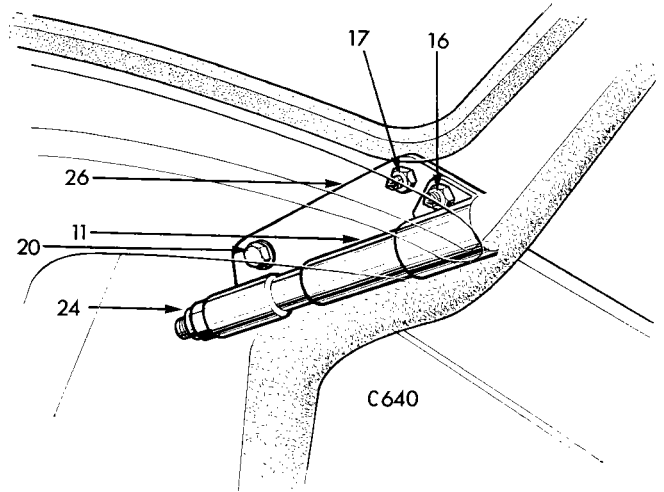

Fig. 59. Screen pillar fixing
2. Take out three bolts (22) and cover plates (21) securing the windscreen frame to the front deck panel.
3. Release the parcel tray outer fixing, pull back the corner of the tray and remove one nut (24) and washer (25) from the bottom of each screen pillar (11) (Fig. 59).